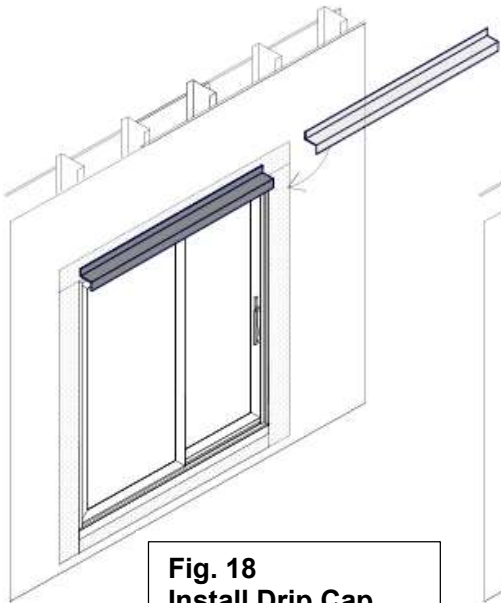
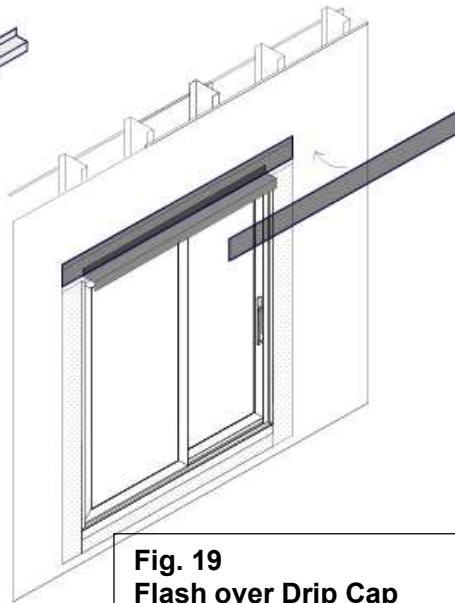

Fig. 18
Fig. 19
B. (Exterior side) Install Drip Cap across door head (Fig. 18) and flash over it with head flashing (Fig 19).